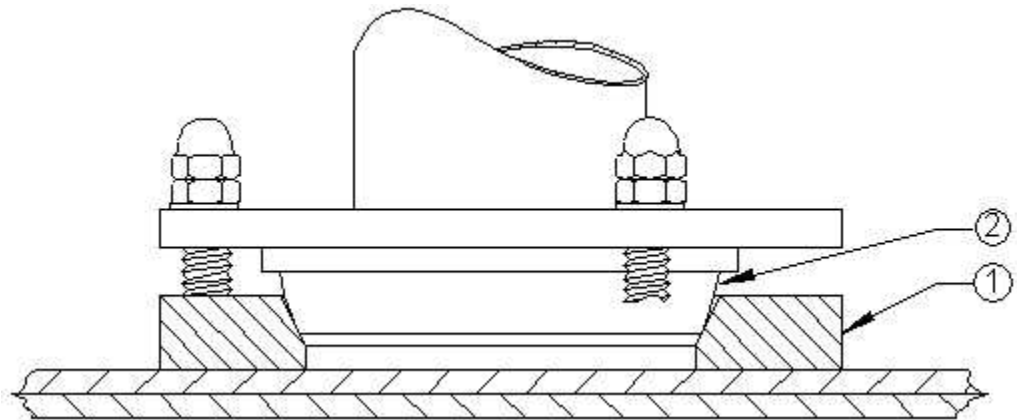

FIGURE 2.1
Be sure that the tapered side of the lower clamping ring (1, Fig. 2.1) atop the housing mates with the half-ball (2) on the candy cane. Feed the three studs at the top of the housing through the holes in the upper clamping ring, and secure with the three lockwashers and 1/4-20 nuts provided. **DO NOT INSTALL NUTS OR WASHERS BETWEEN UPPER AND LOWER CLAMPING RINGS.** (See Fig. 2.1).